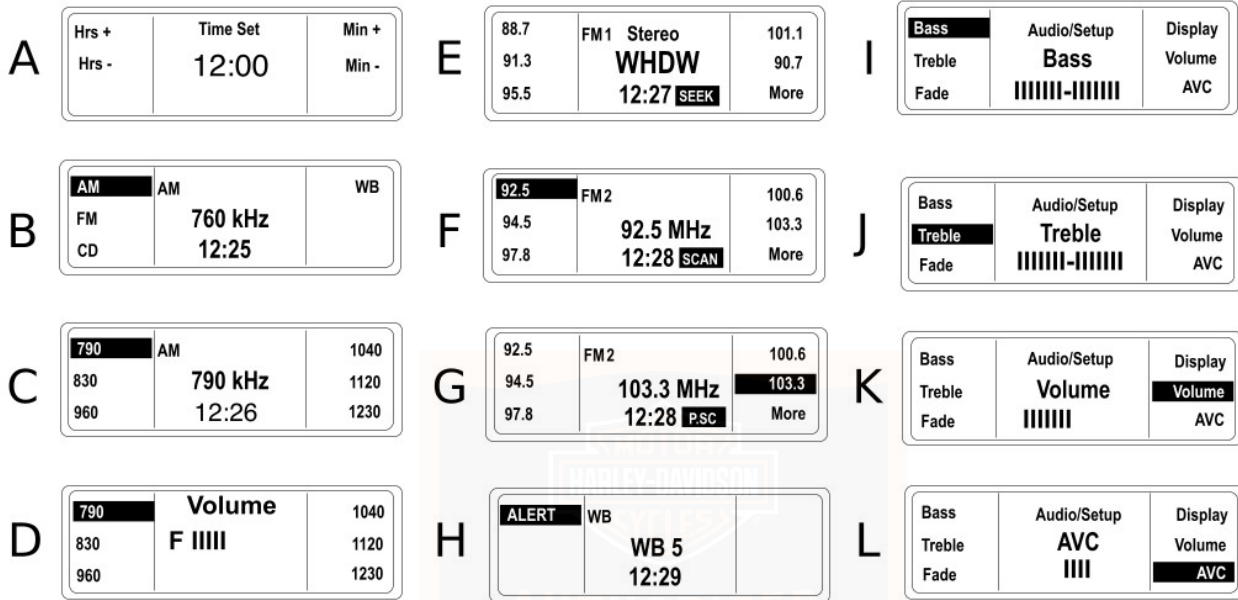

Figure 30. FLHX, FLHTC and FLTRX LCD Display Examples
See A in Figure 30. To increase the hours in the display press the Hrs+ soft key. To decrease hours press the Hrs- soft key. When the hour is correct, release the soft key.
See B in Figure 30. The LCD highlights the selected band.
See D in Figure 30. At any time the receiver is playing, the volume can be adjusted by pressing the **AUDIO** switch up (+) to increase volume or down (-) to decrease volume.
See E in Figure 30. Normally, the Advanced Audio System plays FM signals in stereo. The LCD will indicate **STEREO**.
See H in Figure 30. Broadcast by the National Oceanic and Atmospheric Administration (NOAA) National Weather Band (WB) frequencies are available in North America only.
See E in Figure 30. In SEEK, the radio tunes in to the next strong station.
See F in Figure 30. Press and hold the **MODE SEL** switch **UP** or **DN** approximately 5 seconds to scan the band for strong station signals. Each strong station remains tuned in for 8
See C in Figure 30. AM can store 6 preset frequencies.
*See E and F in Figure 30. Separate FM1 and FM2 bands allow the rider to store 2 sets of 5 preset FM frequencies (10 total). Use the **More** soft key to toggle between FM1 and FM2. The full range of FM frequencies can be selected in either FM1 or FM2.*
See G in Figure 30. In preset SCAN, the radio continuously tunes from one preset station to the next until the preset SCAN is cancelled. A P.SC icon will display while preset SCAN is active.
See D in Figure 30. Volume is adjusted with the **AUDIO** switch on the left hand grip. Using left thumb, press the **AUDIO** switch up (+) to raise the volume or down (-) to lower the volume. The LCD displays the word Volume and a bar graph that changes length with the volume.
See K in Figure 30. Volume can also be adjusted in Audio/Setup.
BASS: See I in Figure 30. Press **AUDIO** to display Bass Audio/Setup. Using the left thumb, press the **AUDIO** switch up (+) to increase the bass range or down (-) to lower the bass range. The LCD displays the word Bass and a dashed line that changes length with the setting. The short center dash indicates a middle setting.
TREBLE: See J in Figure 30. From Bass Audio/Setup, press and release **AUDIO** to sequence to Treble. Using the left thumb, press the **AUDIO** switch up (+) to increase the treble range or down (-) to lower the treble range.
See J in Figure 30. The LCD displays the word Treble and a bar graph that changes length with the setting. The short center dash indicates a middle setting.
See L in Figure 30. Automatic Volume Control (AVC) automatically adjusts volume level to compensate for ambient noise associated with motorcycle speed.